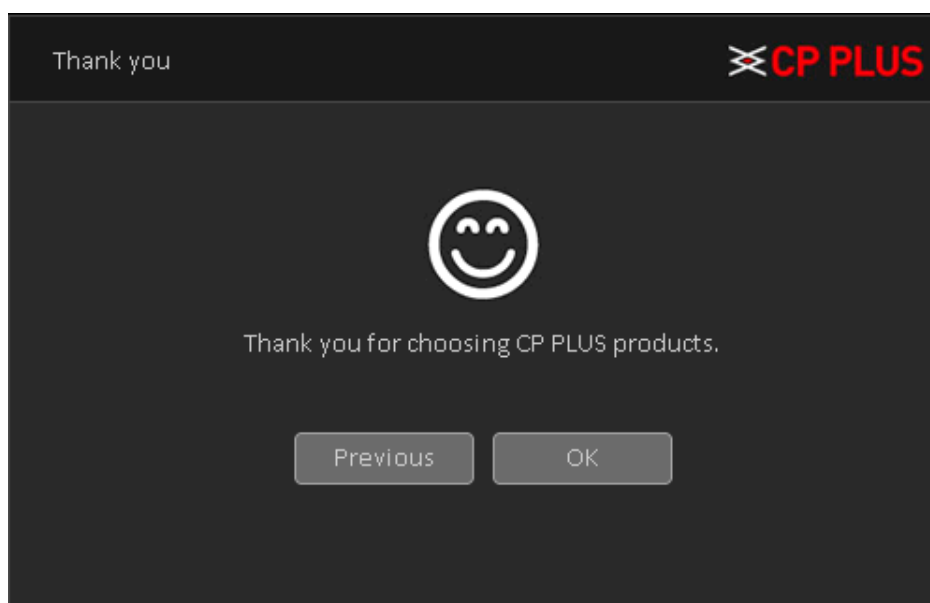

Figure 3.13
- Click Next button, system pops up a dialogue box. Click the OK button, the startup wizard is complete. See Figure 3.13